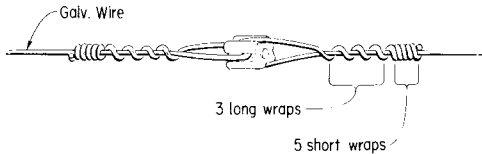

Fig. 7—Installing Strain Insulator in Wire Guy
- (a) **Galvanized Wire Guy:** Serve galvanized wire back on itself. (See Fig. 7)